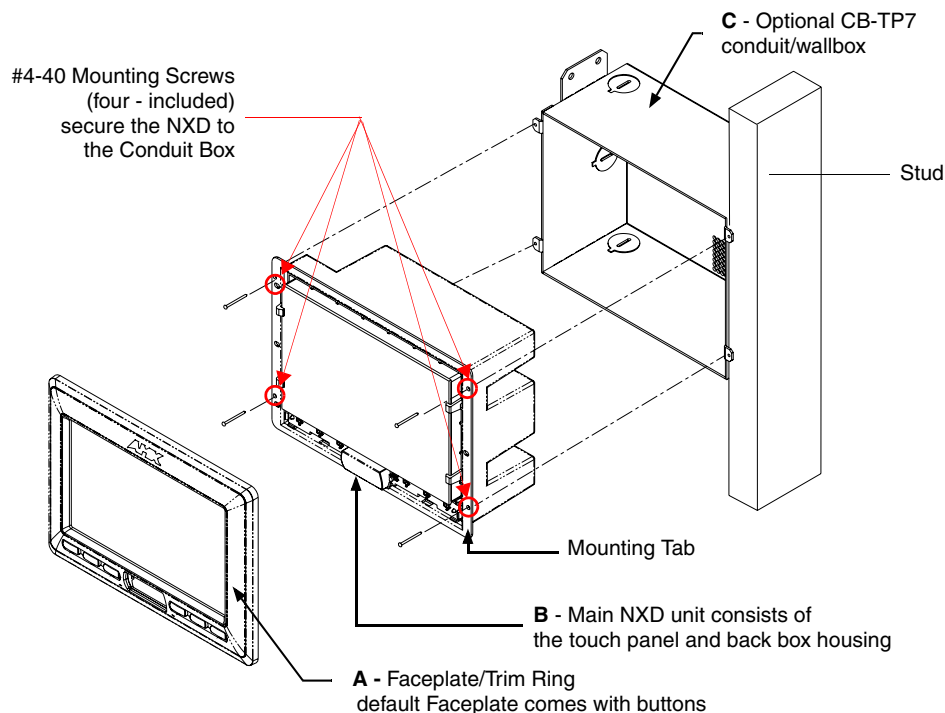

FIG. 35 NXD-CV7 panel installation into a CB-TP7 (pre-wall construction)
- Remove the Faceplate/bezel (A in FIG. 35) from the main NXD unit (B in FIG. 35) by gripping the faceplate and pulling with gentle outward force.
6. Carefully slide the main NXD-CV7 unit (**B** in FIG. 35) into the conduit box, so that all Mounting Tab lie flush against the conduit box (**C** in FIG. 35).
8. Replace the Faceplate/Trim Ring (**A** in FIG. 35) back onto the main NXD unit (**B** in FIG. 35). *Make sure to align the Microphone, Light, and PIR Motion sensor locations to their respective openings on the front faceplate/bezel.*